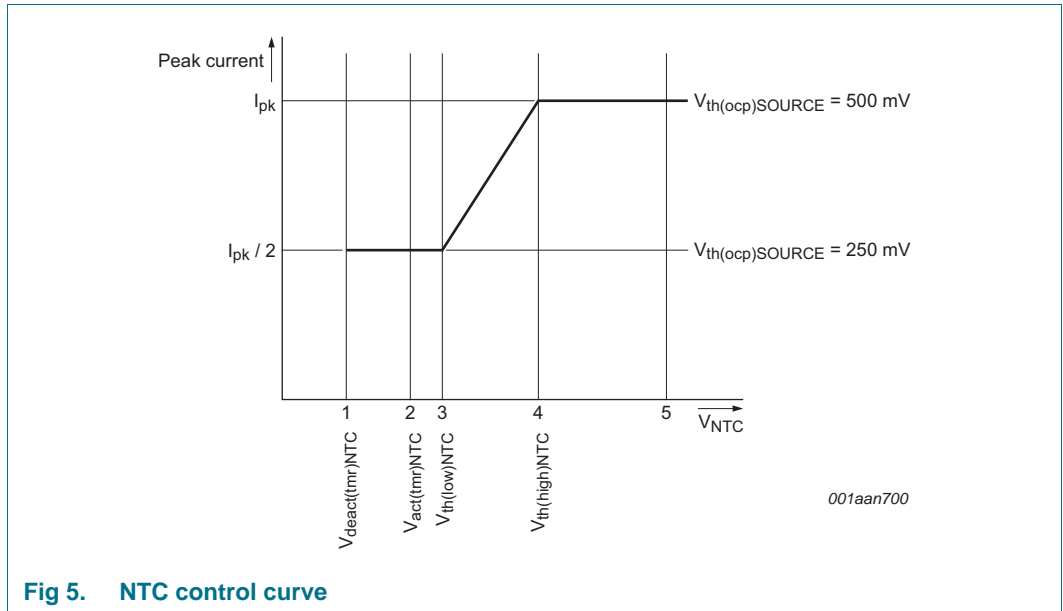

Fig 5. NTC control curve
When the voltage on the NTC pin is higher than  $V_{th(high)NTC}$ , see Figure 5 \(4\), the converter delivers nominal output current. When the voltage is lower than this level, the peak current is gradually reduced until  $V_{th(low)NTC}$  is reached, see Figure 5 \(3\). The peak current is now half the peak current of nominal operation. When  $V_{act(tmr)NTC}$  is passed, see Figure 5 \(2\), a timer starts to run to distinguish between the following situations:
- If the low-level  $V_{deact(tmr)NTC}$  is not reached within time  $t_{to(deact)NTC}$  Figure 5 \(1\), LED overtemperature is detected. The IC stops switching and attempts to restart from the HV pin voltage. Restart takes place when the voltage on NTC pin is higher than  $V_{th(high)NTC}$ , see Figure 5 \(4\). It is assumed that the reduction in peak current did not result in a lower NTC temperature and LED OTP is activated.
- If the low-level  $V_{deact(tmr)NTC}$  is reached within the time  $t_{to(deact)NTC}$  Figure 5 \(1\), it is assumed that the pin is pulled down externally. The restart function is not triggered. Instead, the output current is reduced to zero. The output current rises again when the voltage is higher than  $V_{deact(tmr)NTC}$ .
The NTC pin can be used to make a soft start function. During switch-on, the level on the NTC pin is low. By connecting a capacitor (in parallel with the NTC resistor), a time constant can be defined. The time constant causes the level on the NTC pin to increase slowly. When passing level  $V_{th(low)NTC}$  Figure 5 \(3\), the convertor starts with half of the maximum current. The output current slowly increases to maximum when  $V_{th(high)NTC}$  Figure 5 \(4\) is reached.